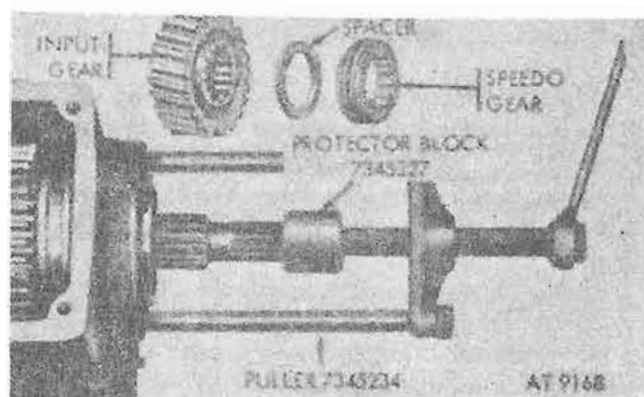

Figure 8-35. Removing transmission output shaft rear bearing.
- h. Remove speedometer drive gear, spacer and transfer input gear from output shaft. Install puller (7345234) and protector block (7345227) as shown in figure 8-35, and remove rear bearing from shaft.